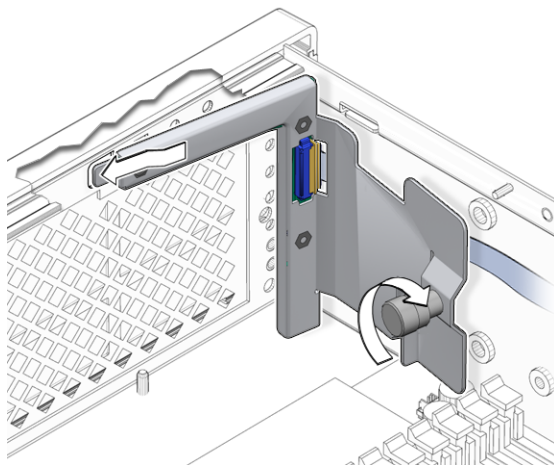

FIGURE 5-26 Inserting the LED Board Tab
3. Insert the tab on the LED board into the slot on the chassis (FIGURE 5-26).